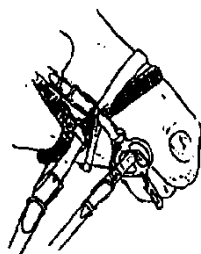

Fig. 5 - Reins Attached to Head collar (Head collar displayed in black)
- It is important that this does not interfere with the bridle or bit. (See Figure 5)